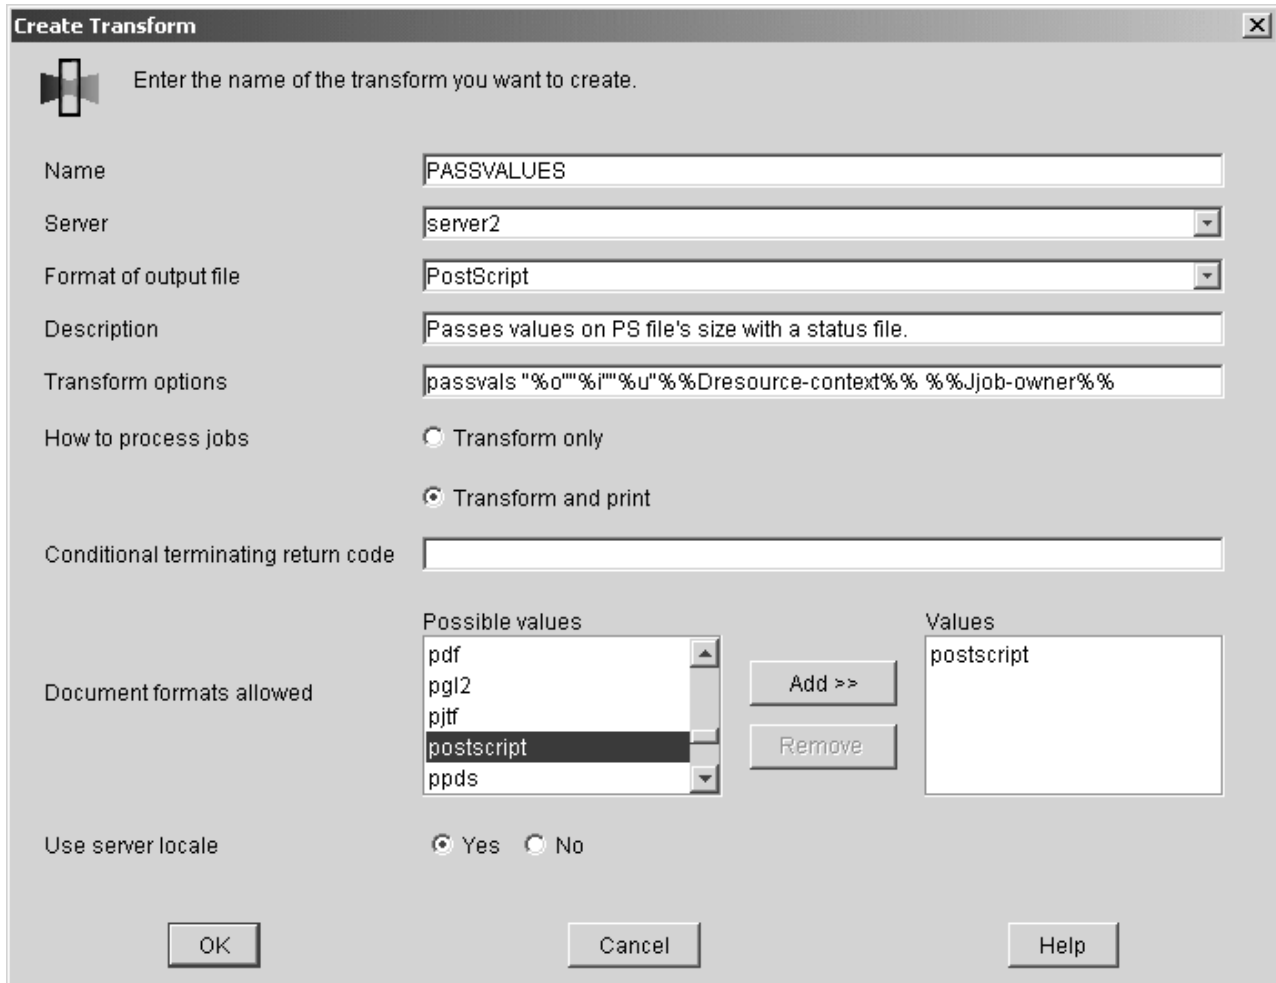

Figure 56. Create Transform dialog: Define a transform to pass job attributes
3. In the **Create Transform** dialog, fill in the fields as shown in Figure 56 on page 219.